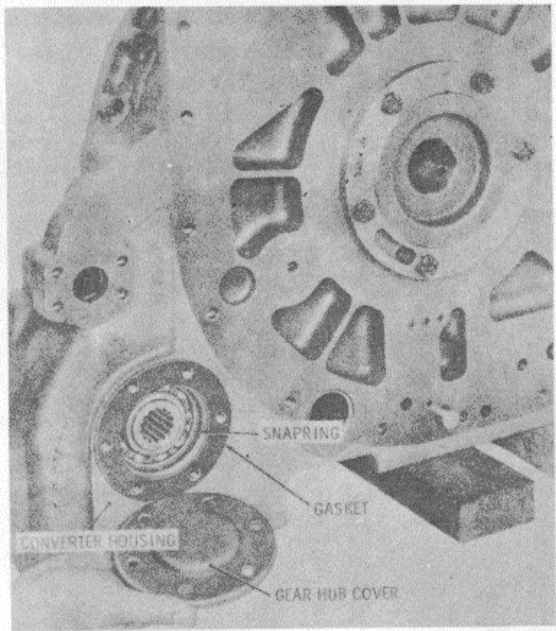

Figure 15-167. Installing Pump Drive Gear Hub Cover
4. Tap on the gear hub to seat it in the pump drive gear. Secure the bearing with the snap ring (Figure 15-166). Install the pump drive gear hub gasket and cover (Figure 15-167) onto the converter housing and install six 3/8-16 x 7/8